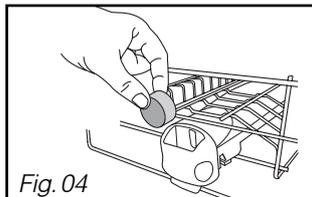
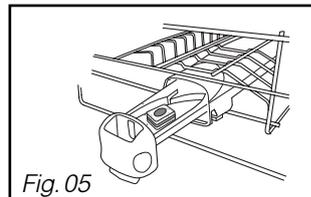

Fig. 04
Fig. 05
Non-multipurpose tablets should be placed in the external compartment (Fig 04) or, for optimum performance, pull out the dispenser drawer and lay the tablet inside (Fig 05).
• **Place the tablet** in the external compartment (Fig 04 on previous page) or, for optimum results, pull out the distributor's drawer and lay the tablet inside (Fig 05 on previous page).